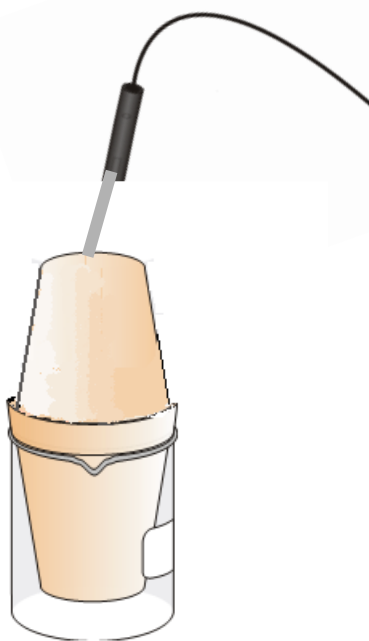

Figure 1
acid will be used to ensure sufficient temperature change in the neutralization reaction. All reactions will be performed in polystyrene cups (figure 1), calorimeters, to minimize heat losses to the environment, and the temperature changes will be measured with the LabQuest. The solutions should be measured in separate, labeled graduated cylinders, as shown in Table 1. A drop of thymol blue indicator may be added to each solution to give them different colors, making each visually distinct from the other.
4. Place a Styrofoam cup into a 250 mL beaker as shown in Figure 1. Measure out the assigned volume of citric acid solution into the Styrofoam cup. Place the Temperature Probe through a second cup and into the citric acid solution.